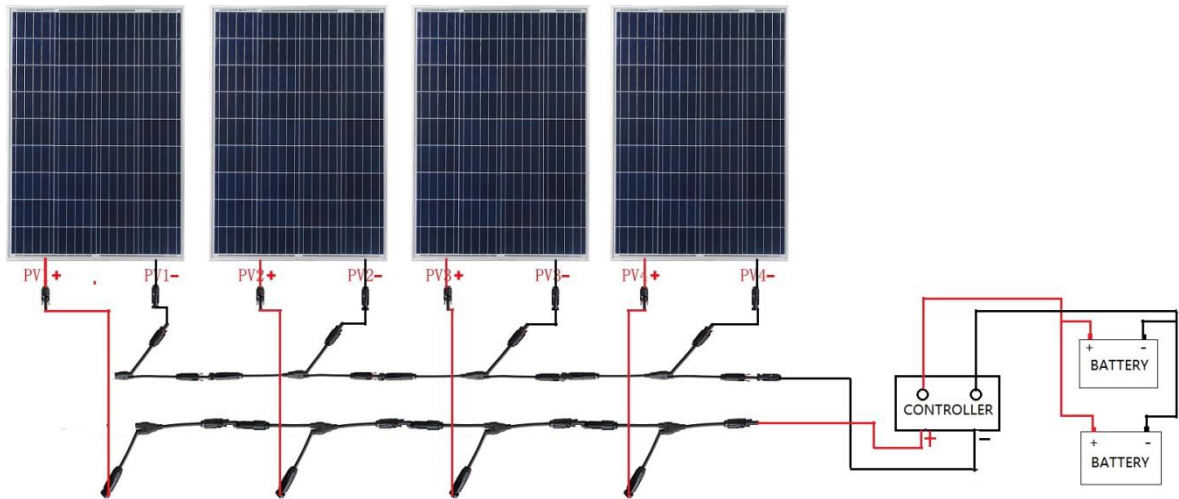

Figure 7.2.5
Step 6: Connect the extension cable to the Controller (terminal marked as solar). Figure 7.2.5